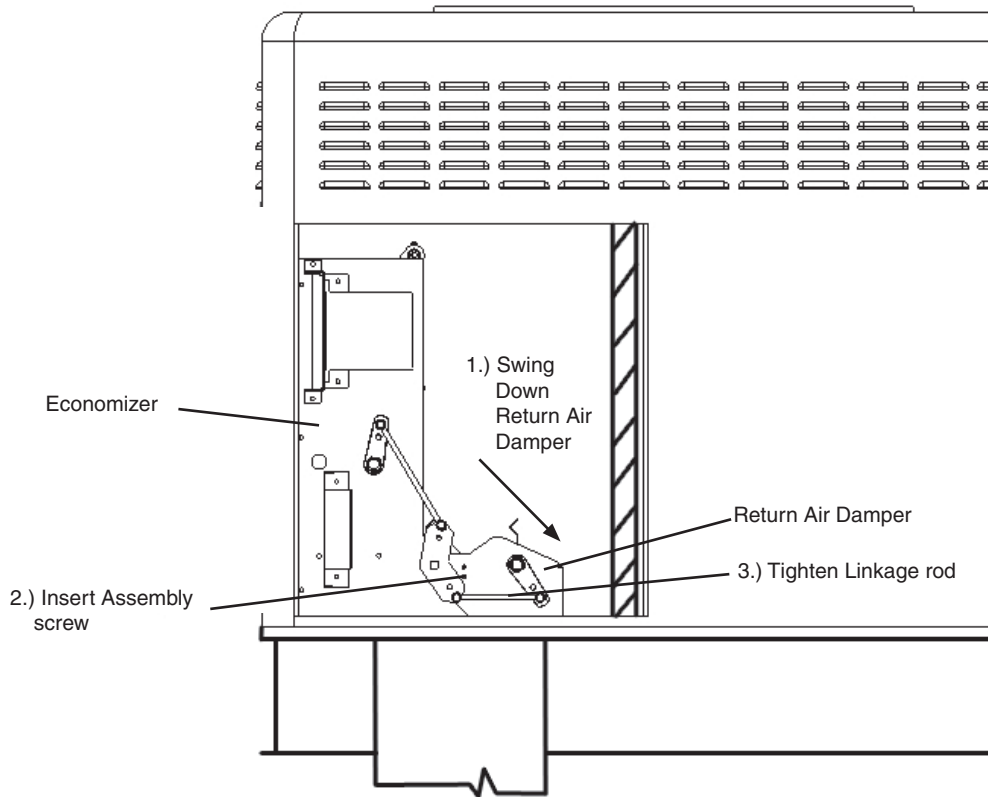

Figure 5. Swing Down and Set Economizer Return Air Damper
2. Swing the return air damper section down so that it rests on the bottom of the unit. The economizer will sit completely over the return air opening in the bottom of the unit. See Figures 5 on page 5. Screw the economizer assembly together with one assembly screw in the side of the economizer. Tighten the linkage rod between the return air dampers.
4. Insert a screw through the pre-punched hole in the side flange of the return air damper and into the mating hole in the economizer assembly and tighten. See Figure 5 on page 5.